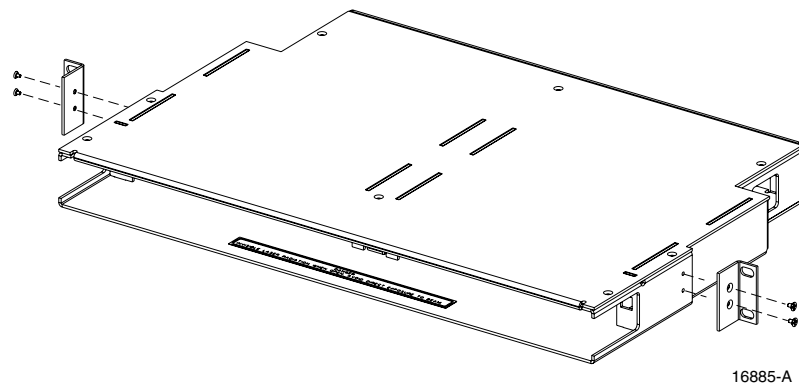

Figure 3-3. Installing the Replacement Mounting Brackets
4. Install the replacement mounting brackets as shown in Figure 3-3. Use the screws removed in step 2 to attach the new brackets to the mounting shelf.